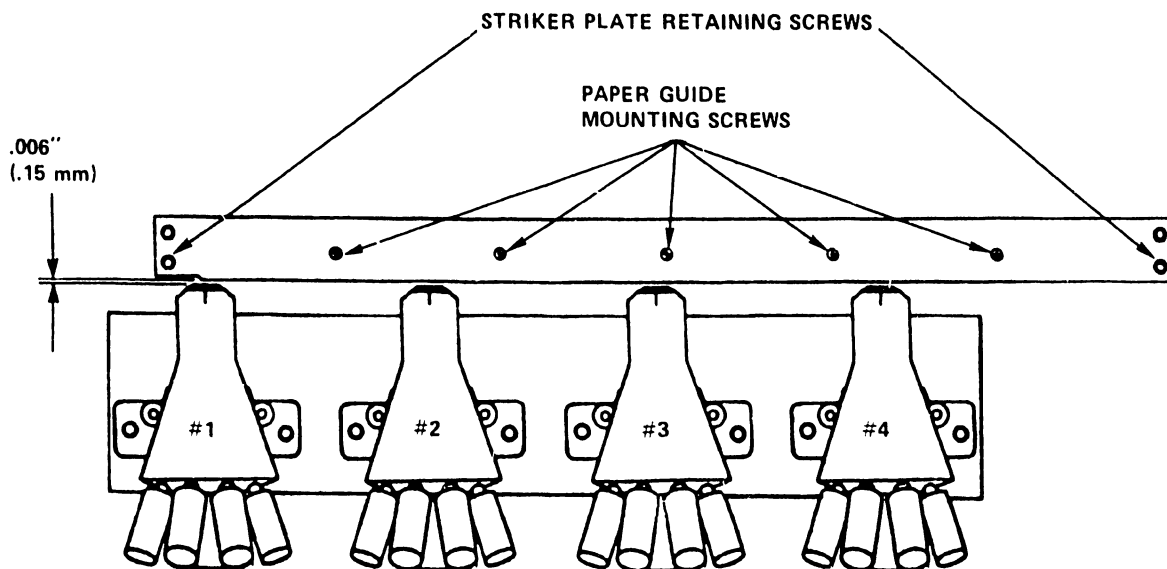

Figure 5-13. Striker Plate Adjustment
5. Using a feeler gauge, measure the gap from print head bearing #1 to the striker plate. This gap will measure approximately .006" (.15 mm). Note the exact measurement and continue with the next step. See Figure 5-13.